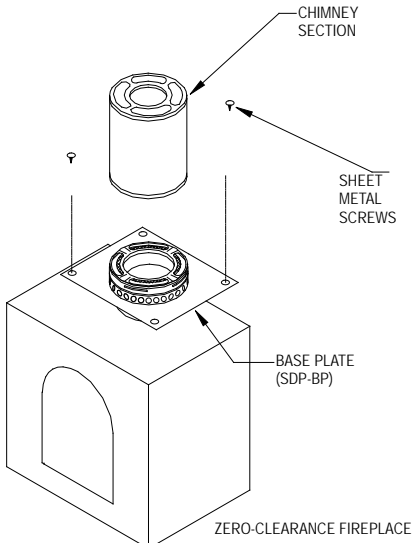

Figure 31
2. **Base Plate:** Attach a Base Plate to the fireplace top with sheet metal screws. (Figure 31). A high temperature sealant may be used if desired.